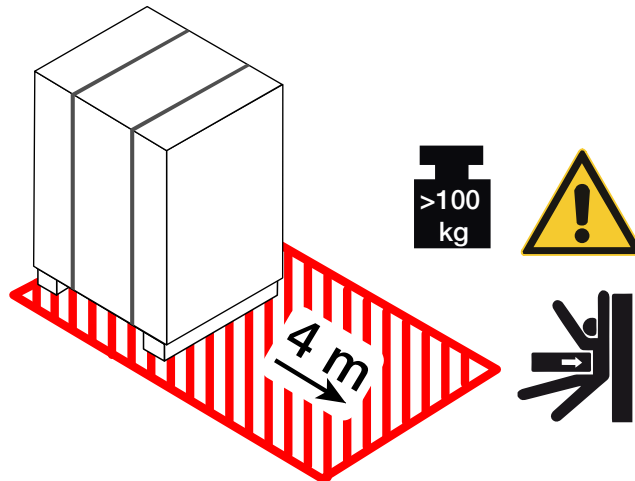

Figure 1-3: Space Required for Unloading
1. Place the pallet with the centrifuge so that you have at least 4 m of space in front of the pallet, as indicated by the cross-hatched area in Figure 1-3.